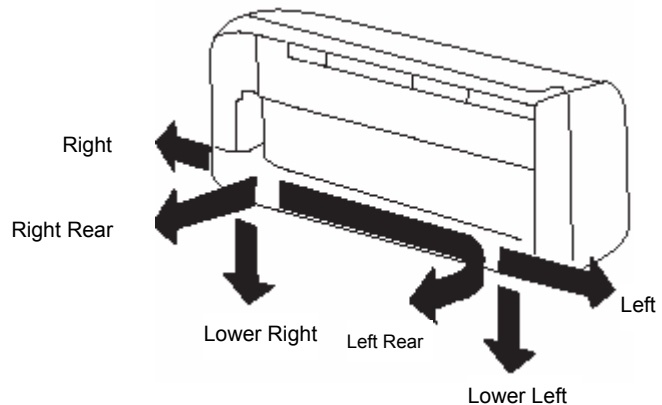

Figure 11-2
- As shown in Figure 11-2, a fitting pipe can extend outward from 6 directions. Choose one direction as needed.